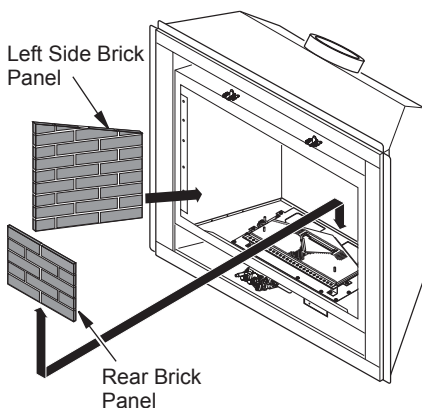

Figure 44 - Installing Rear Brick Panel
8. Install rear brick panel first. Rest bottom edge of panel on back edge of burner assembly (see Figure 44).
9. Install left side brick panel by sliding it between burner assembly and side of firebox (see Figure 44).